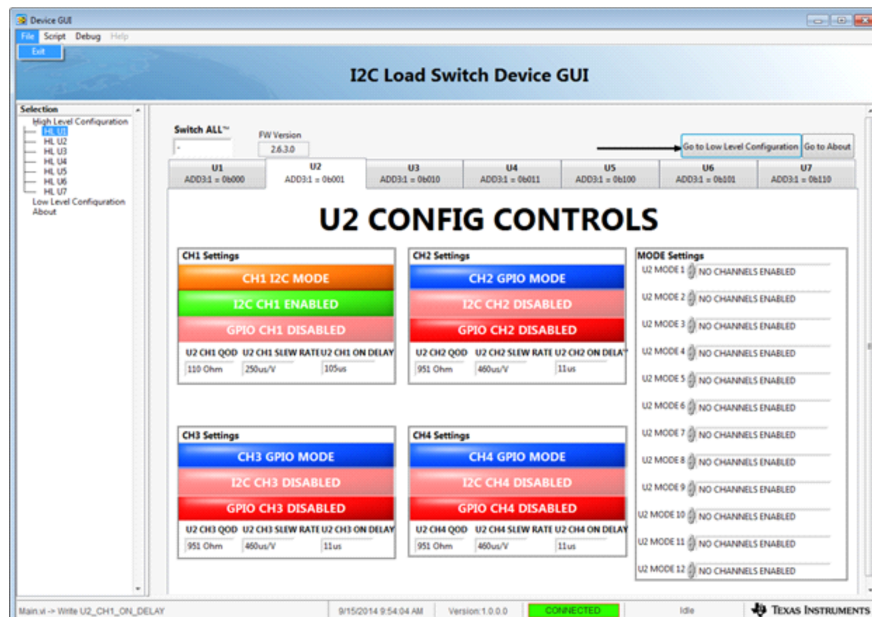
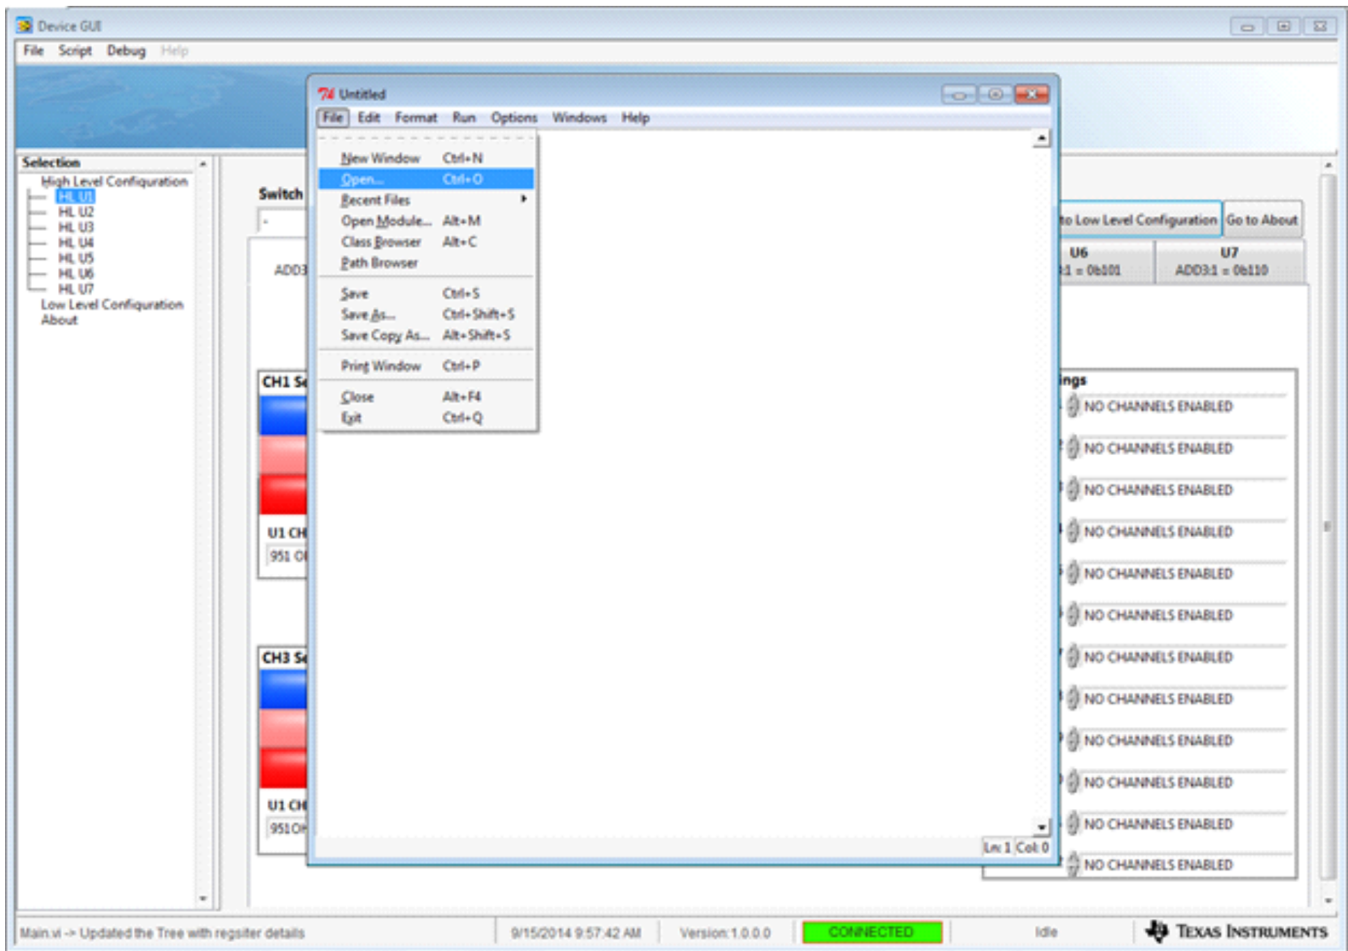

Figure 21. Select Exit on the Device GUI
Figure 22. Open Test_gui_script.py File
- (L) Go to the I²C Load Switch GUI and Select File>> Exit, see Figure 21 to exit the application.
- (M) Restart the application and go to Script >>> Launch Window.
- (N) In the Python window go to File >> Open>> and Browse to the test_gui_script.py file on the desktop, see Figure 22.